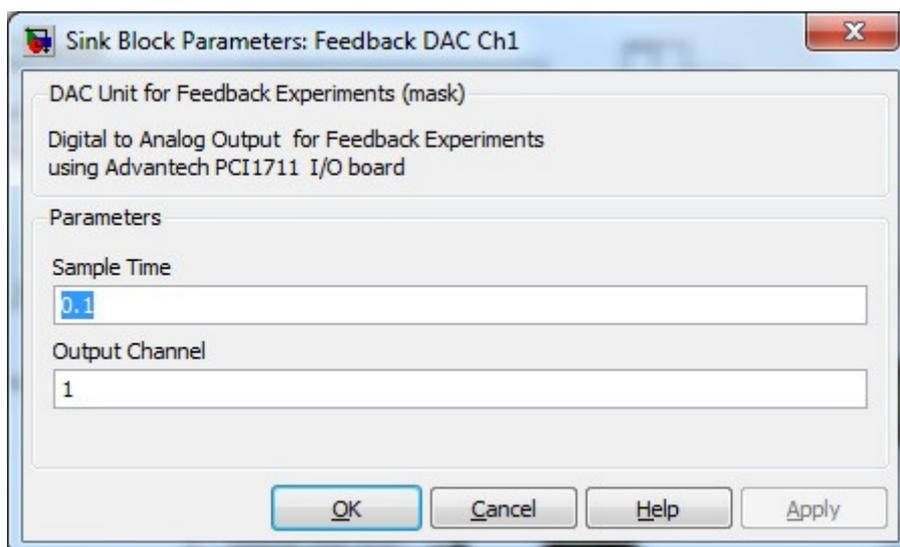

Figure 42 Feedback DAC Block – parameters
- By double clicking on this block we can change the above parameters (Figure 42).